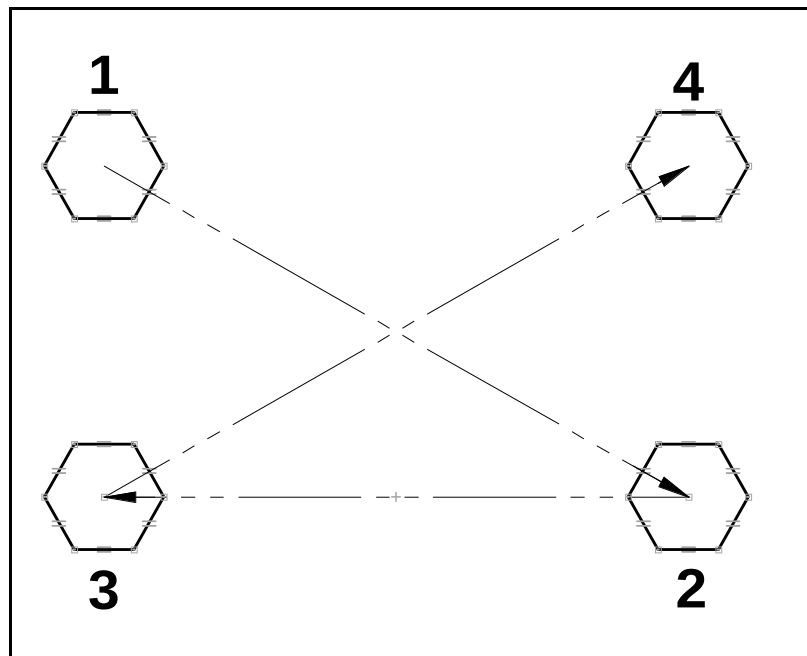

Figure 17: Side Frame Column Wear Plate Bolt Torque Sequence
To apply the column wear plate, follow the requirements of AAR Specification M-210 and Standard S-3003. However, the Q4 column wear plate application has some differences to those in AAR rules. The rule that a 1/32" x 1/2" feeler gauge must not go between the wear plate and the casting more than 1/2" is to be disregarded in the recessed region of the side frame column face only. There is also a specific bolt torque sequence for the application, which is described in Figure 17. Reference Section 5.5.1 of this manual for the fasteners needed to apply the column wear plate.
- 1) Snug each bolt in the sequence shown in Figure 17. Do not break the bolt head off during tightening in this step.
- 2) Tighten each bolt until the bolt head breaks off, in the sequence shown in Figure 17.